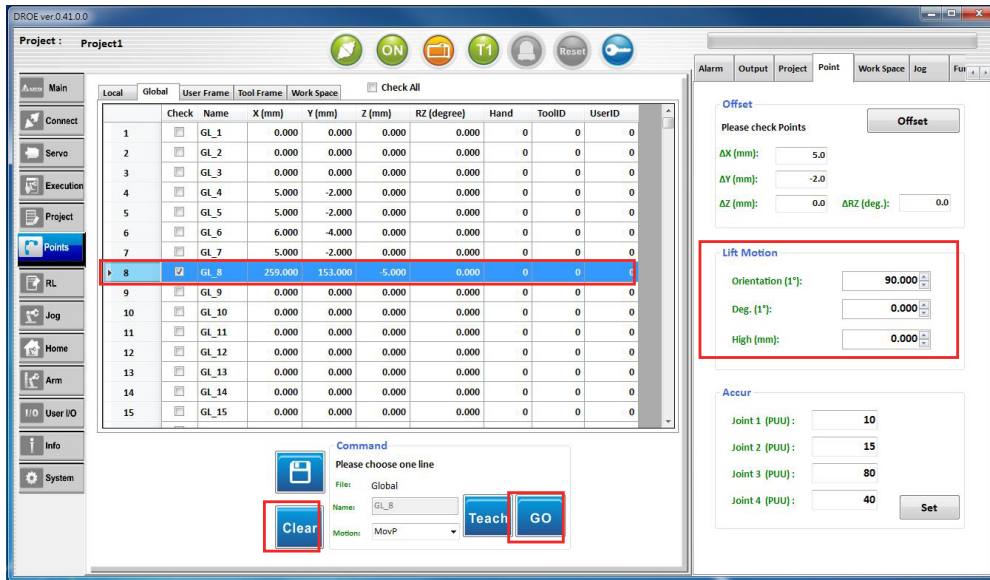

Fig.30 Lift Motion
7. Lift motion is as shown in Fig.30: